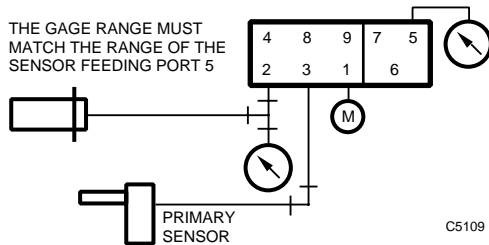

Fig. 8. Piping for RP920B compensation startpoint (W_c) setting.
1. Install in port 5 either a receiver gage that matches the compensation sensor, or a 0 to 30 psi (0 to 207 kPa) gage (see Fig. 8).